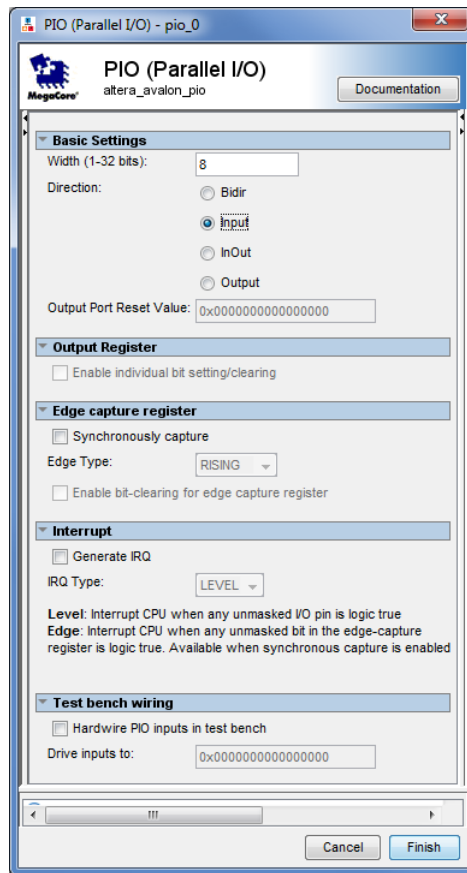

Figure 12. Define a parallel input interface.
- Select **Peripherals > Microcontroller Peripherals > PIO (Parallel I/O)** and click **Add** to reach the PIO Configuration Wizard in Figure 12